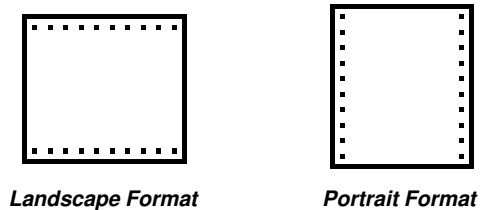

Figure 3-32: Hardcopy Formats
3. Press **SHIFT HARDCOPY MENU** → **Layout** (main) → **Landscape** or **Portrait** (side) (see Figure 3-32).